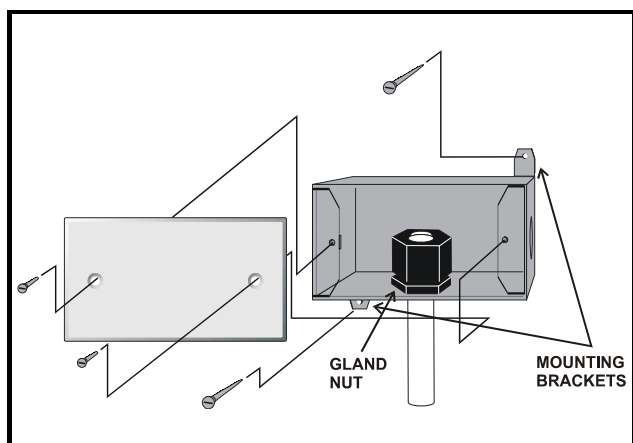

Figure 3-25 - Duct-mounted RH Sensor - Exploded View
2. Bolt the sensor enclosure against the outside of the duct wall so that the sensor element fits through the hole and into the duct. The enclosure may be mounted horizontally, as shown in *Figure 3-25* or vertically. The screws should be tight enough for the foam gasket around the bottom of the sensor to form an airtight seal between the hole in the duct wall and the outside air.